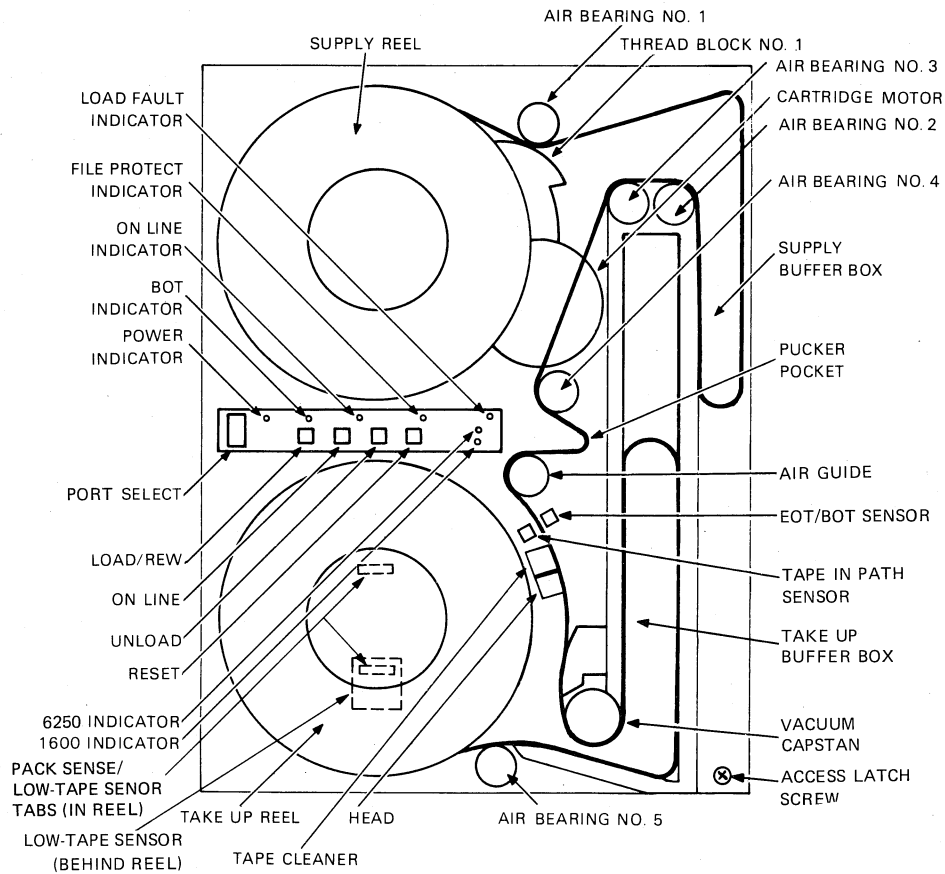

Figure 6-4 Base Assembly, Front Components
5. Install the work tape reel on the supply hub. Thread the tape so the EOT and BOT reflective tabs are not under the sensors (Figure 6-4). Maintain tension with one end of the tape by holding the tape on the capstan. The tape must contact the head surface.
4. Rotate the take-up reel until the sensor tab (located on the inside of the outer flange of the reel) is in line with the low tape sensor behind the reel (Figure 6-4).